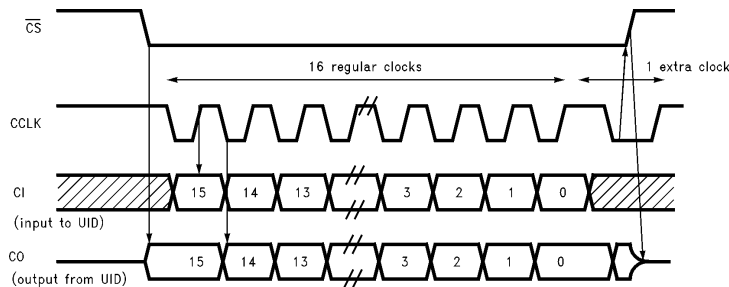

FIGURE 3b. TP3410 Alternate MICROWIRE Clock Format
2. CCLK idling HIGH when  $\overline{CS}$  pin is inactive HIGH, pulsing HIGH/LOW/HIGH for 17 clocks, then returning back to HIGH for idle condition. Data is output on CO pin on the negative edge and data sampled in on the positive edge of CCLK. This format (shown in *Figure 3b*) is normally used with other alternate microcontrollers in the industry, such as the Mot MC68302. The first 16 clock pulses are the normal low-going pulses to shift and sample the microwire data. The **17th pulse needs to be generated with software** by toggling the CCLK clock polarity bit on the microprocessor port. It is necessary to deactivate the  $\overline{CS}$  pin (bring it high) while the CCLK is low as shown in *Figure 3b*.